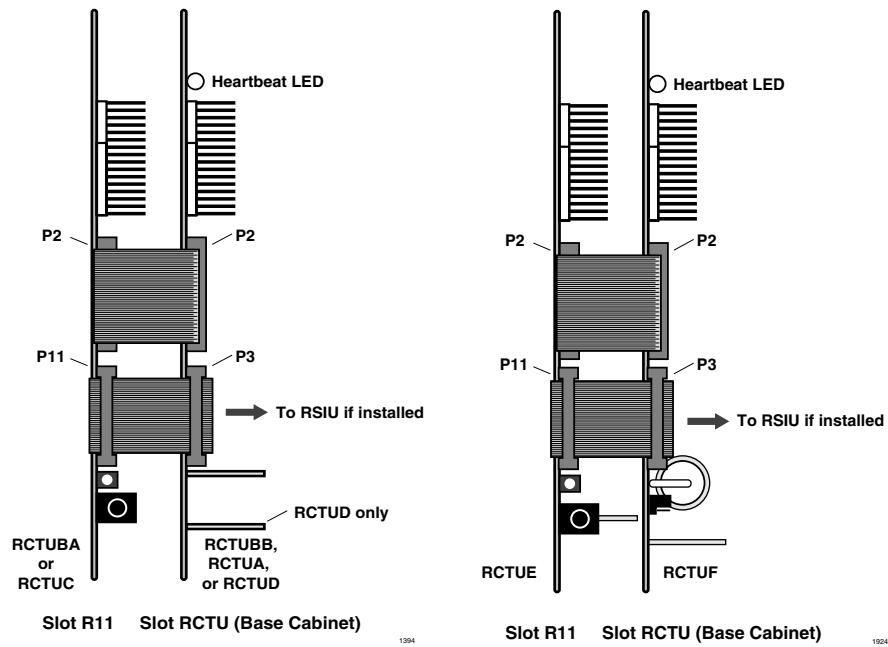

Figure 1 RCTU PCB Cabinet Slot Placement
Figure 1 shows the slot placement of the processor cards. Remove only the RCTUA, RCTUBB, RCTUD, or RCTUF.
5. Replace with the equivalent ROMs or flash memory in the upgrade kit. Make sure the front and back are in the correct position. Press the ROM firmly, making sure all pins are inserted properly. Place the version upgrade labels (two locations) on the card (see Figures 1~5).